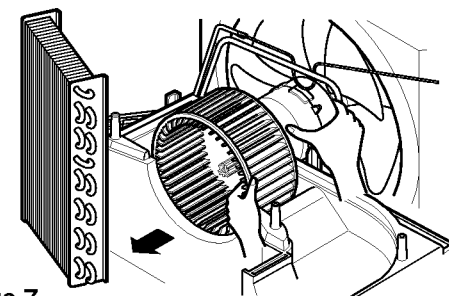

Figure 7
7. Re-install the components by referring to the above removal procedure. (See figure 7)